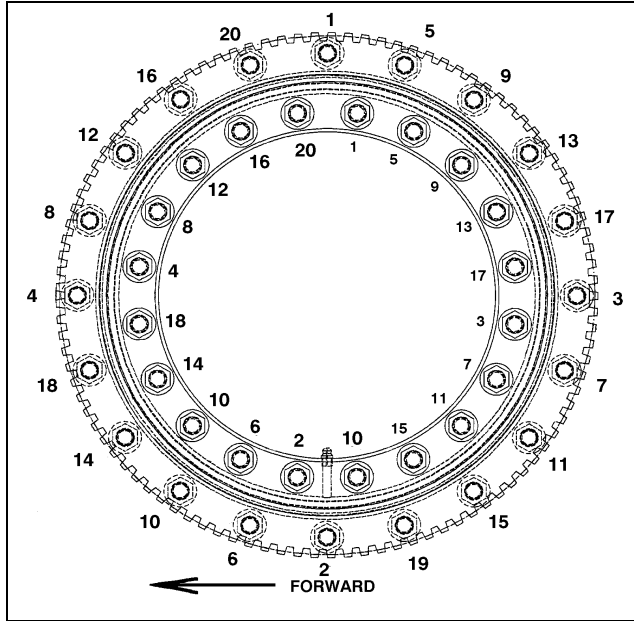

Figure 3-33. Swing Bearing Torque Sequence
2. Line up high spot (yellow) of bearing with center tooth of bull gear. Set backlash to 0.008 - 0.010 inch (0.20 - 0.25 mm). Tighten capscrews as shown in Figure 3-33., Swing Bearing Torque Sequence
6. Following the torque sequence diagram shown in Figure 3-33., Swing Bearing Torque Sequence, tighten the bolts to an initial torque of 130 ft. lbs. (175 Nm). Then following the same sequence, tighten to a final torque of 190 ft. lbs. (260 Nm).
11. Following the torque sequence shown in Figure 3-33., Swing Bearing Torque Sequence tighten the bolts to an initial torque of 130 ft. lbs. (175 Nm). Then following the same sequence, tighten the bolts to 190 ft. lbs. (260 Nm).